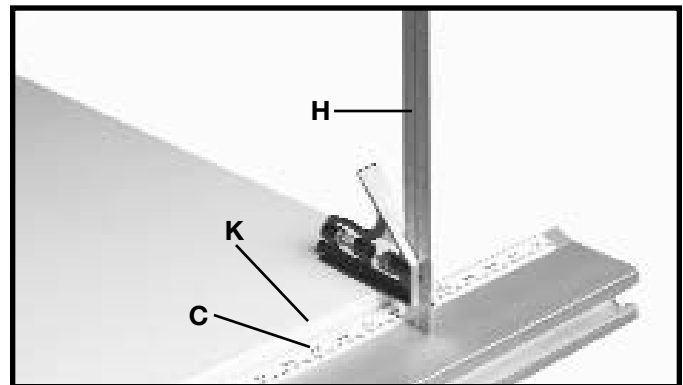
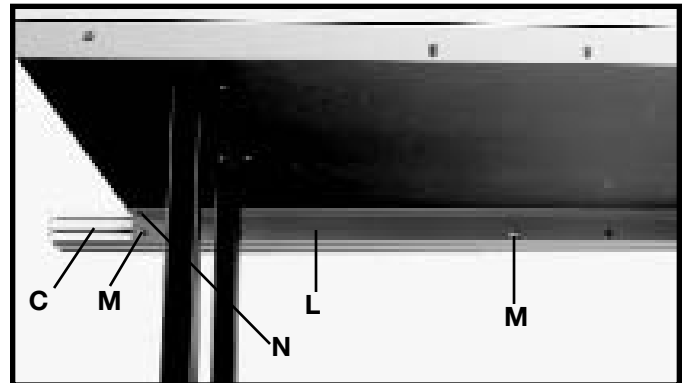

Fig. 24
Fig. 25
8. Move the square (H) Fig. 24, to the end of the Unifence table and check to make certain the same distance is maintained from the top surface of the extension table (K) to the top surface of the guide rail (C). Move the front table support (L) Fig. 25, against the guide rail (C), and tighten the 1/4-20 nuts (M). Tighten two wood screws, one of which is shown at (N) Fig. 25, that fasten the Unifence table to the guide rail.